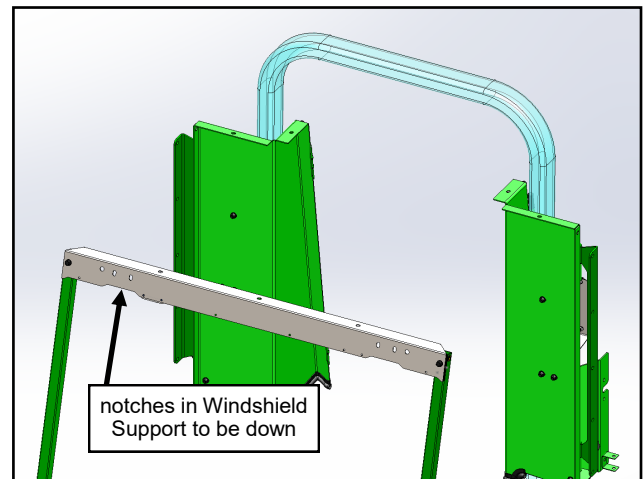

Fig. 7.1 (Install Windshield Support)
7.1 Per fig. 7.1, install the Windshield Support oriented with notches down as shown and leaving the 2 bolts loose.